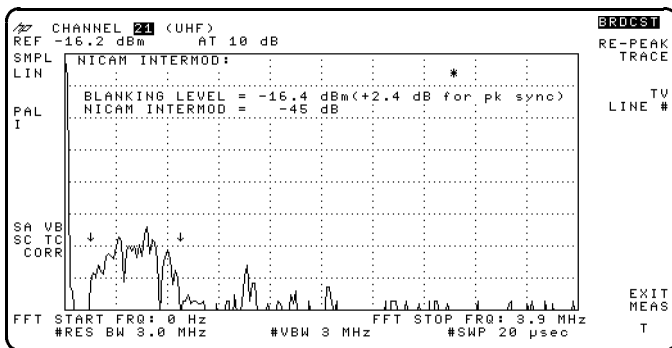

Figure 2-24. NICAM Intermodulation Measurement
2. Press **More 1 of 4**, **More 2 of 4** then **NICAM IP TEST** to perform the NICAM Intermodulation measurement. The result is updated after each sweep and displayed on the spectrum analyzer screen as shown in Figure 2-24.